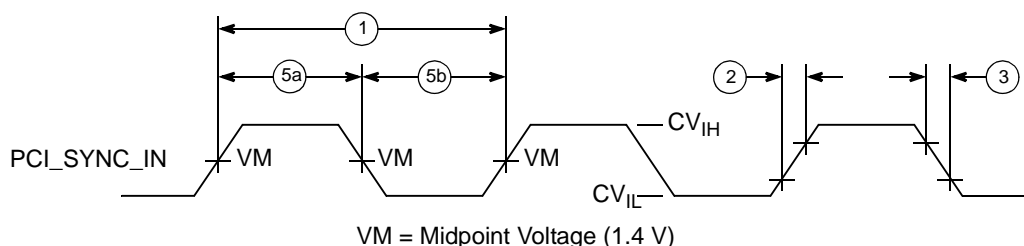
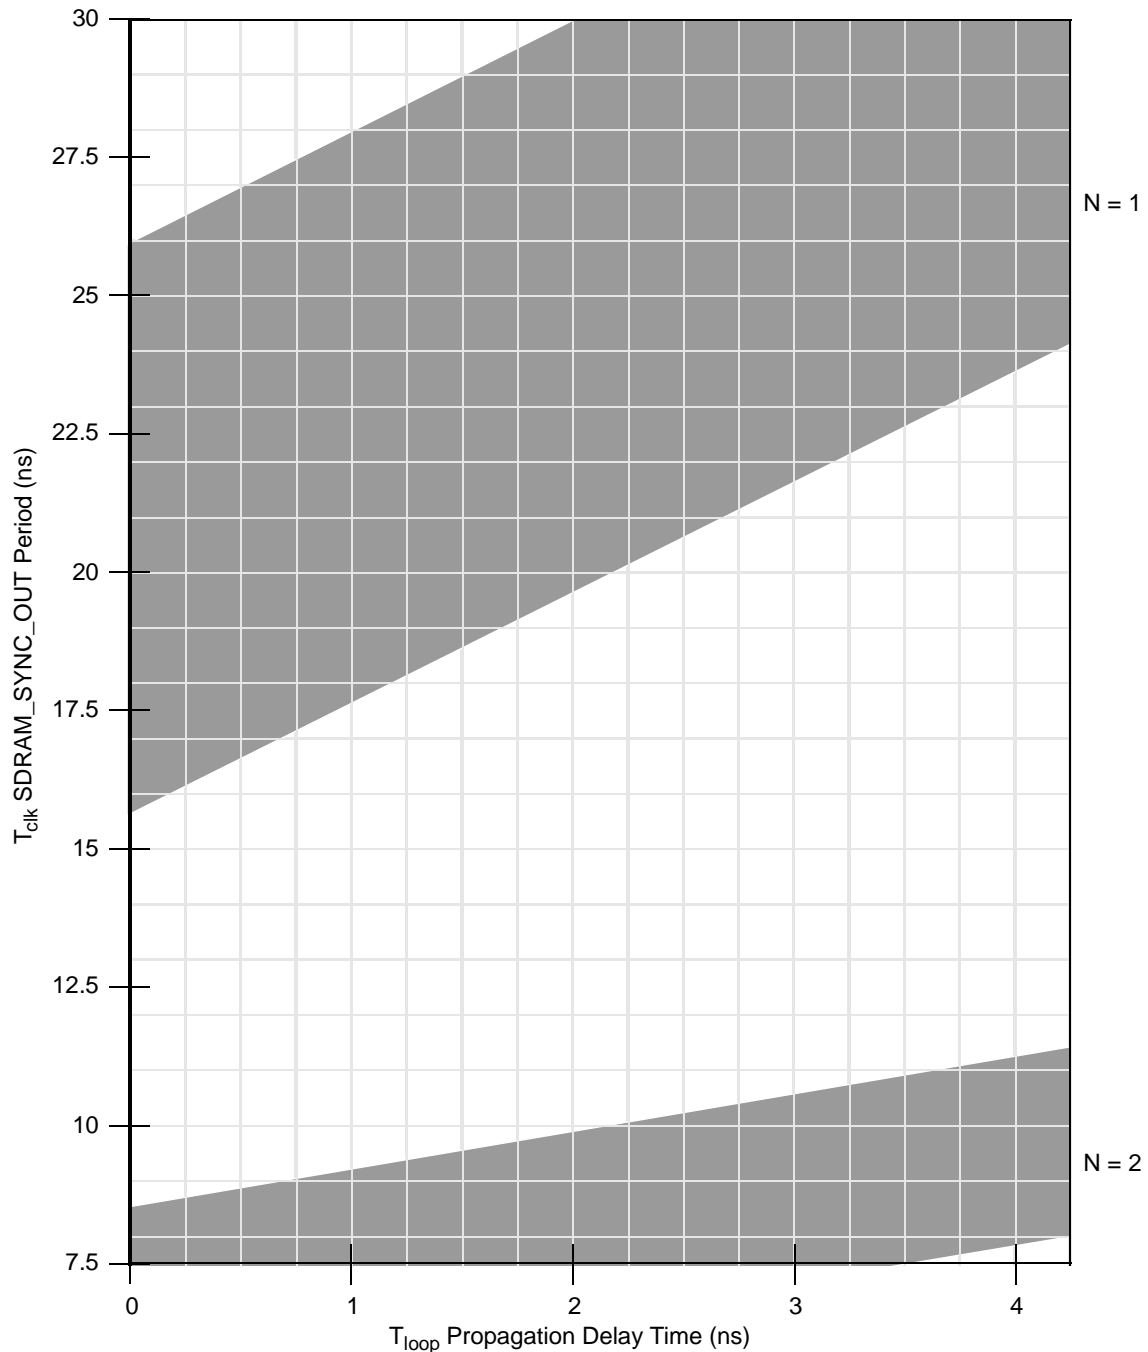
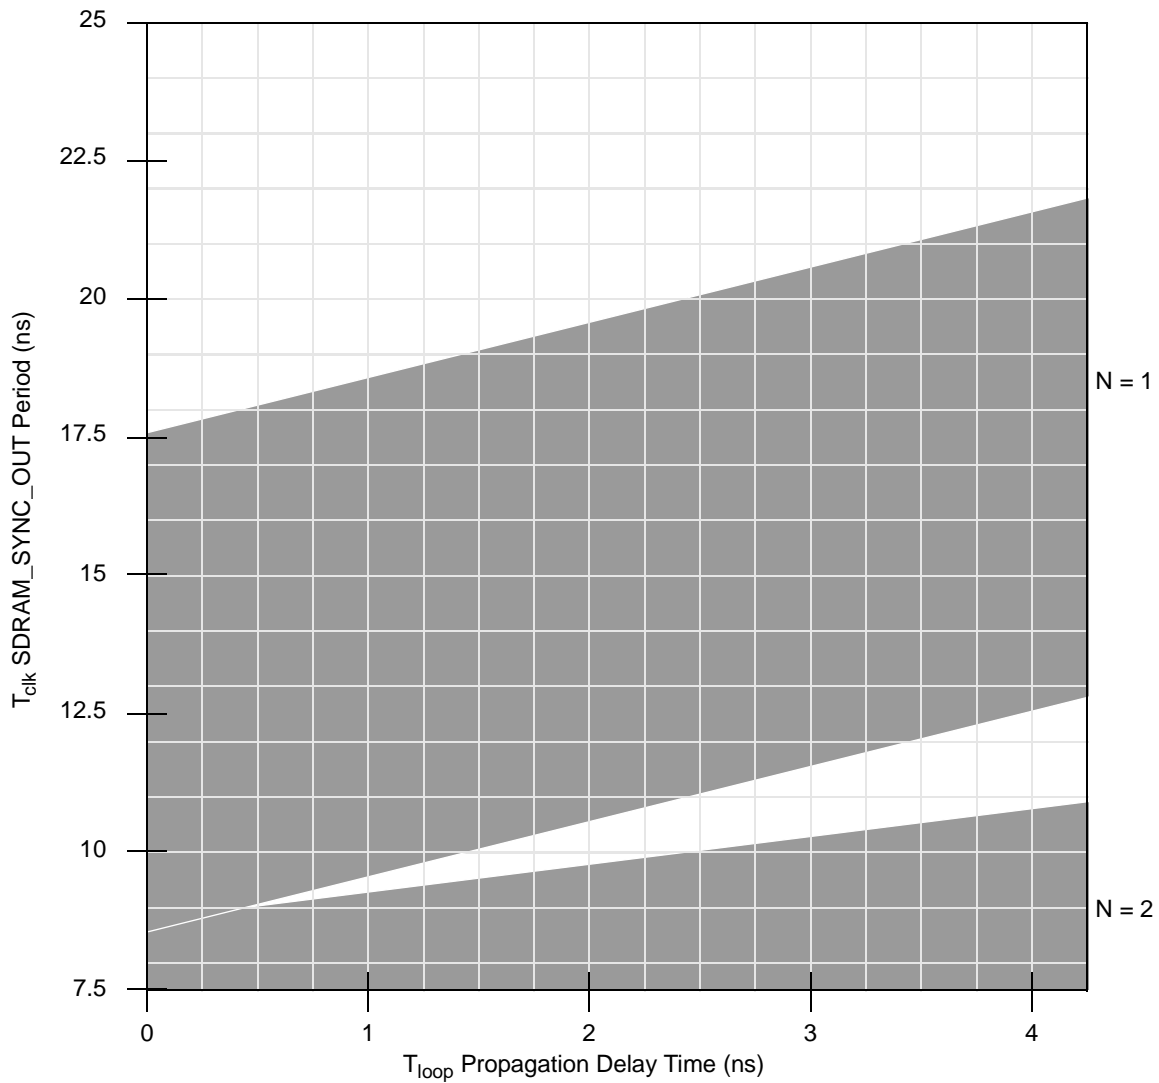

Figure 6. PCI_SYNC_IN Input Clock Timing Diagram
Figure 7. DLL Locking Range Loop Delay vs. Frequency of Operation for DLL_Extend = 1 and Normal Tap Delay
Figure 10. DLL Locking Range Loop Delay vs. Frequency of Operation for DLL_Extend = 0 and Max Tap Delay
Table 8 provides the clock AC timing specifications at recommended operating conditions, as defined in Section 1.4.3.2, “Input AC Timing Specifications.” These specifications are for the default driver strengths indicated in Table 4. Figure 6 shows the PCI_SYNC_IN input clock timing diagram with the labeled number items listed in Table 8.
- DLL_EXTEND is bit 7 of the PMC2 register <72>. N is a non-zero integer (see Figure 7 through Figure 10). T_{clk} is the period of one SDRAM_SYNC_OUT clock cycle in ns. T_{loop} is the propagation delay of the DLL synchronization feedback loop (PC board runner) from SDRAM_SYNC_OUT to SDRAM_SYNC_IN in ns; 6.25 inches of loop length (unloaded PC board runner) corresponds to approximately 1 ns of delay. $T_{dp}(\text{max})$ and $T_{dp}(\text{min})$ are dependent on tap delay. See Table 9 for values of $T_{dp}(\text{max})$ and $T_{dp}(\text{min})$. See Figure 7 through Figure 10 for DLL locking ranges. Refer to Motorola Application Note AN2164, *MPC8245/MPC8241 Memory Clock Design Guidelines*, for more details on memory clock design.
Figure 6 shows the PCI_SYNC_IN input clock timing diagram and Figure 7 through Figure 10 show the DLL locking range loop delay vs. frequency of operation.
Figure 7 through Figure 10 show the DLL locking range loop delay vs. frequency of operation. These graphs define the areas of DLL locking for various modes. The grey areas represent where the DLL will lock.
- T_{os} represents a timing adjustment for SDRAM_SYNC_IN with respect to *sys_logic_clk*. Due to the internal delay present on the SDRAM_SYNC_IN signal with respect to the *sys_logic_clk* inputs to the DLL, the resulting SDRAM clocks become offset by the delay amount. The feedback trace length of SDRAM_SYNC_OUT to SDRAM_SYNC_IN must be shortened by this amount relative to the SDRAM clock output trace lengths to maintain phase-alignment of the memory clocks with respect to *sys_logic_clk*. Note that the DLL locking range graphs of Figure 7 through Figure 10 compensate for T_{os} and there is no additional requirement to shorten T_{loop} by the duration of T_{os} . Refer to Motorola Application Note AN2164, *MPC8245/MPC8241 Memory Clock Design Guidelines*, for more details on accommodating for the problem of T_{os} and trace measurements in general.